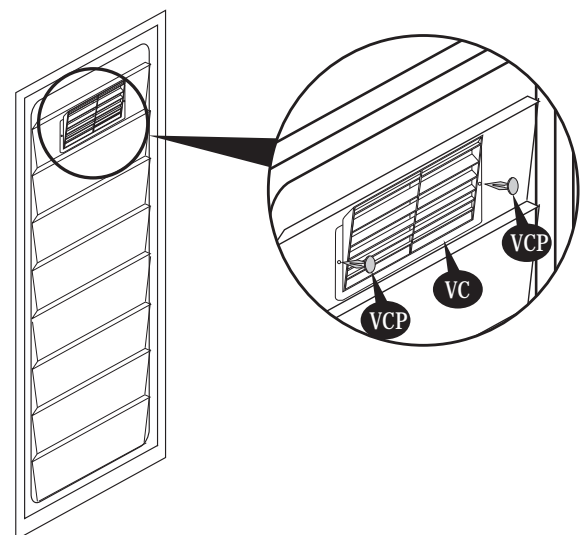

fig.4
4. Attach the ventillation cover (VC) with the ventilation cover pin (VCP) as in fig.4.